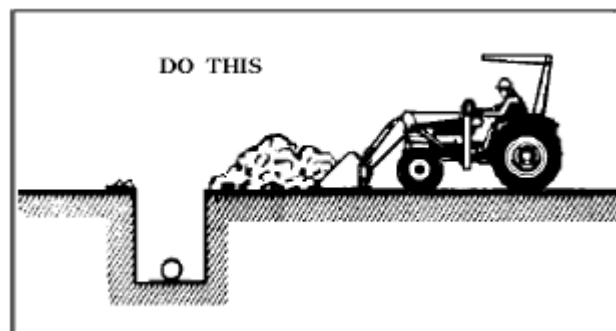

Fig4.20.Approach the pile with a flat bucket.
- Do not use the bucket in the dumped position or bulldozing or backgrading. This method, shown above, will impose severe shock loadings on the dump linkage, the bucket Cylinder, and the Tractor shown in figure 4.20.